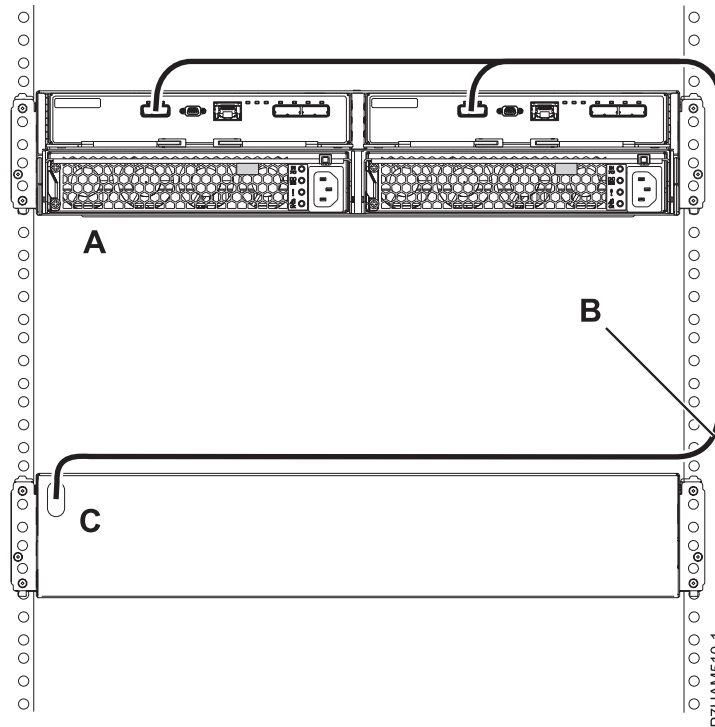

Figure 26. Mode 1 connection of one 58/87 disk drive enclosure by using a YI cable to a system with support for a single SAS drawer
- g. Perform the mode 1 connection of one 58/87 disk drive enclosure (A) by using a YI cable (B) to a system with support for a single SAS drawer (C) as shown in Figure 26.